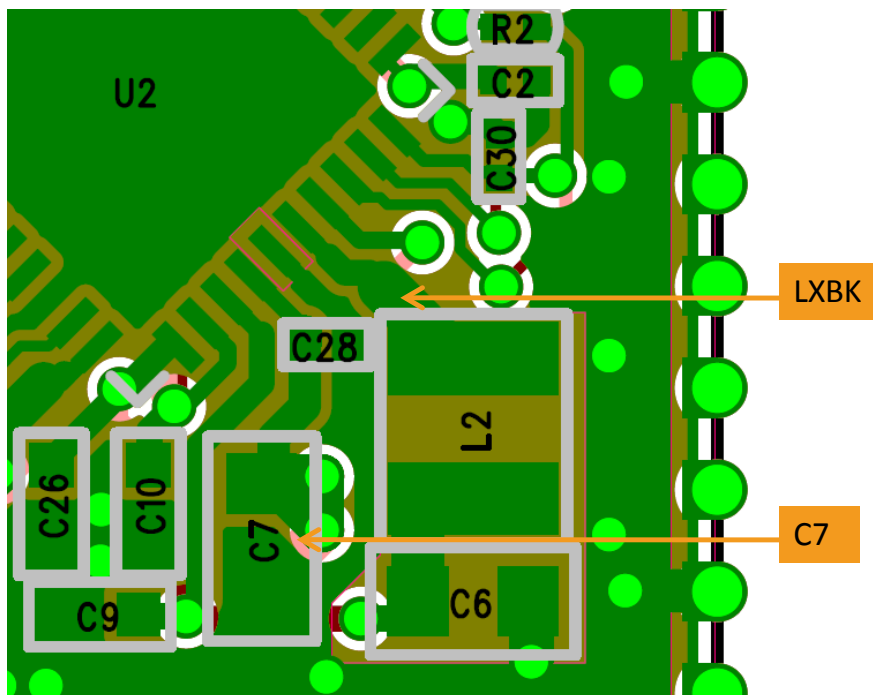
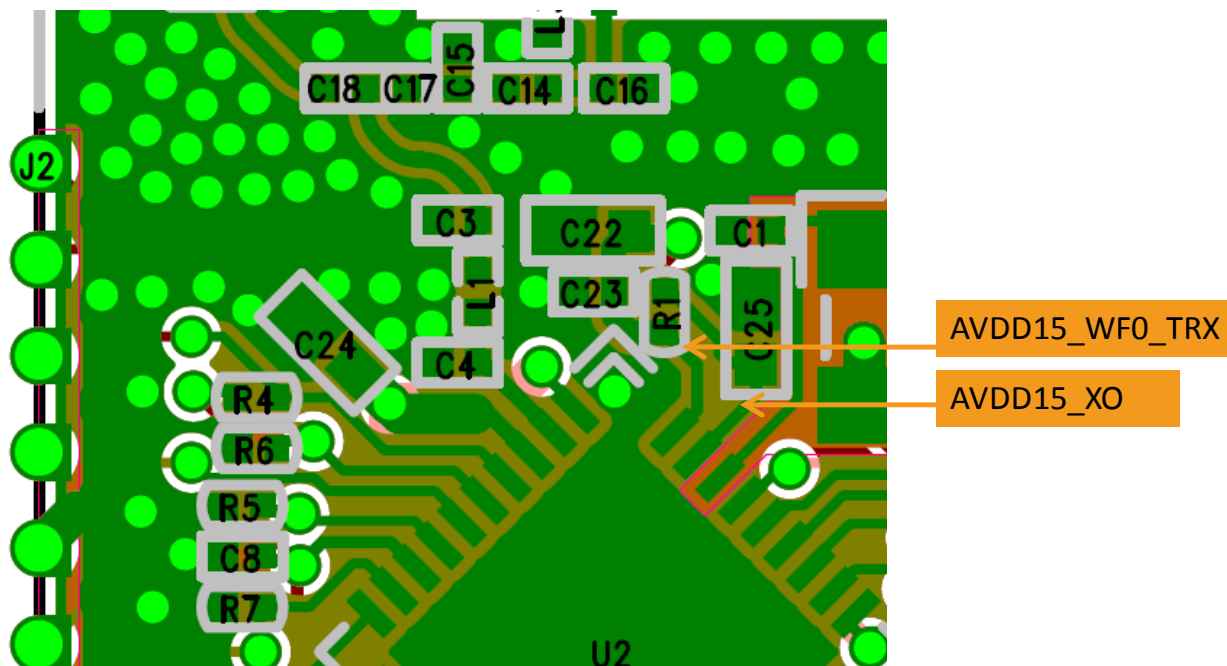
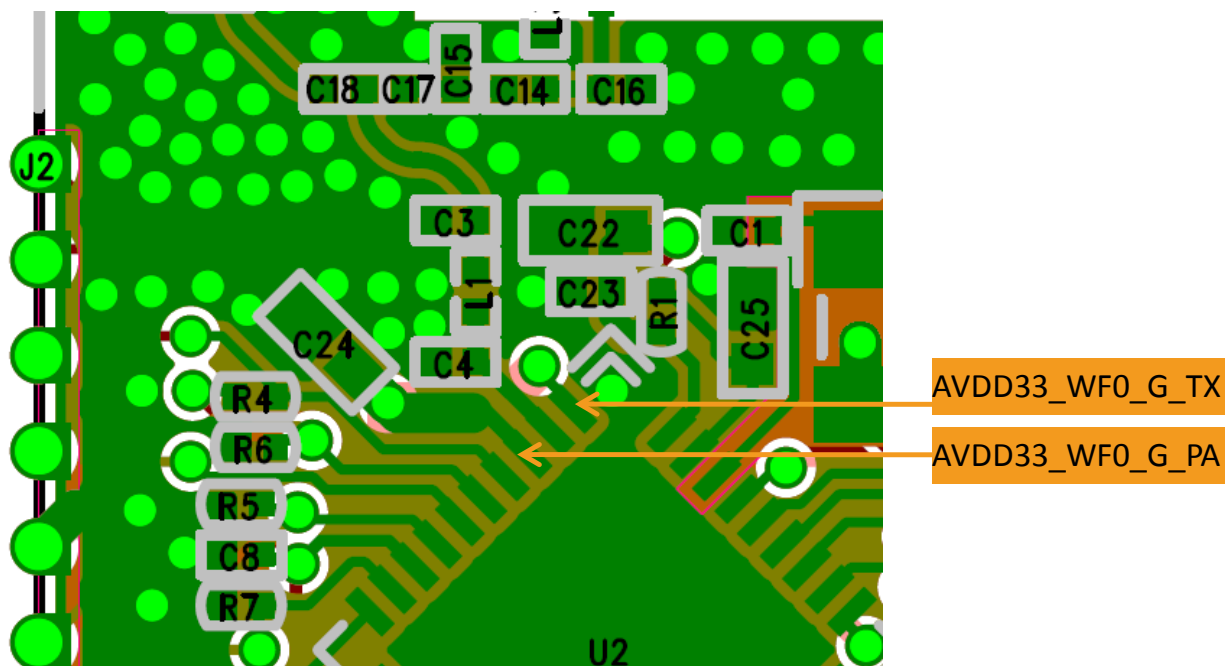

Figure 12. Placement and routing example of LXBK and C7
Figure 13. Placement and routing example of AVDD15
Figure 14. Placement and routing of AVDD33_WF0_G_PA and AVDD33_WF0_G_TX
This section provides detailed description to design a power efficient device. The details on net or pin locations are shown in Figure 12, Figure 13 and Figure 14.
- 4) Place C7 close to MT7682 as close as possible (see Figure 12).
- AVDD15_WF0_TRX, AVDD15_X0 (see Figure 13).
- AVDD33_WF0_G_TX, AVDD33_WF0_G_PA (see Figure 14).